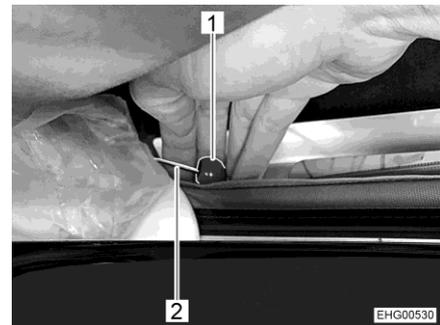

Fig. 34 Emergency release
- Pull the red button (Fig. 34,1) of the cable control (Fig. 34,2) on both sides.